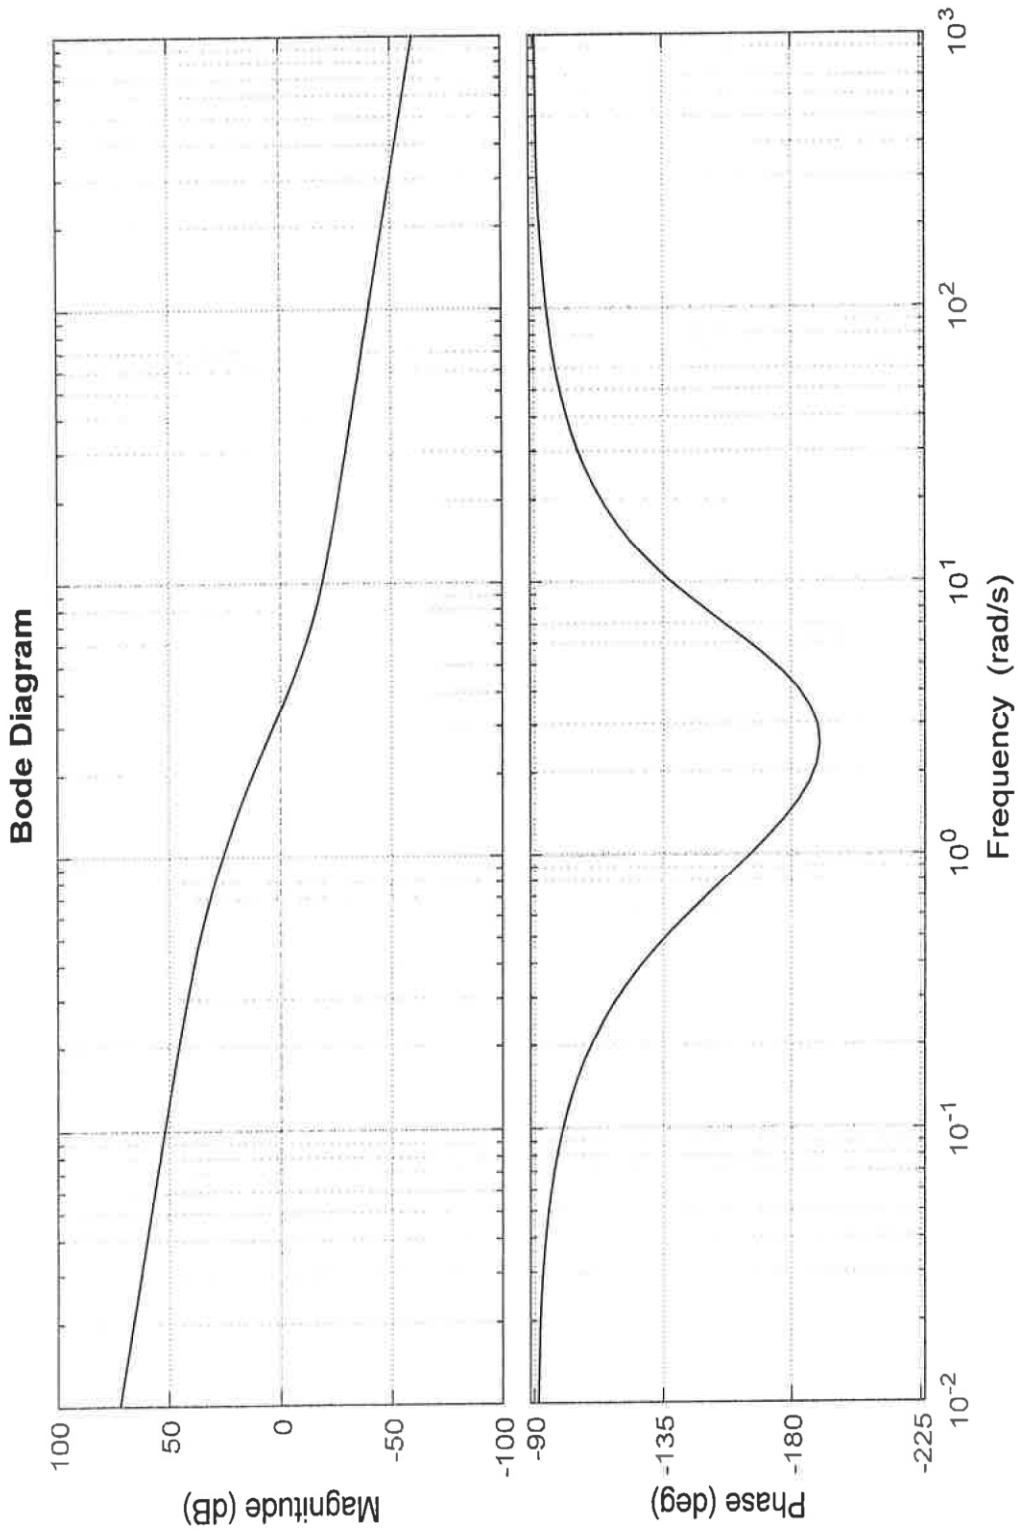

Figure Q2.1 - Frequency Response Plots of the Process $G(j\omega)$ in Question 2
- 1) (5 marks) The frequency response of the process transfer function, $G(j\omega)$, is shown in Figure Q2.1. Use it to verify the value(s) of the Critical Gain, K_{crit} , and the frequency of oscillations, ω_{osc} , (when $K_p = K_{crit}$), obtained in Question 1.